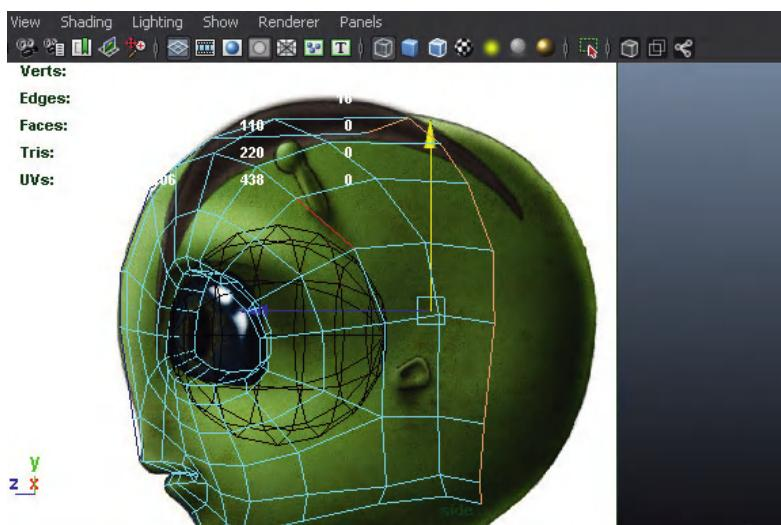

FIG 4.34 Continuing to shape back across the head.
Step 51: Continue extruding back to continue forming the cranium. Select the edges of the face but do not include the edges along the center of the face or the edges that are along the bottom of the jaw. Extrude back a couple more extrusions to form back to behind the ear (Fig. 4.34). Be sure to be shaping the form by moving the new vertices as you go.